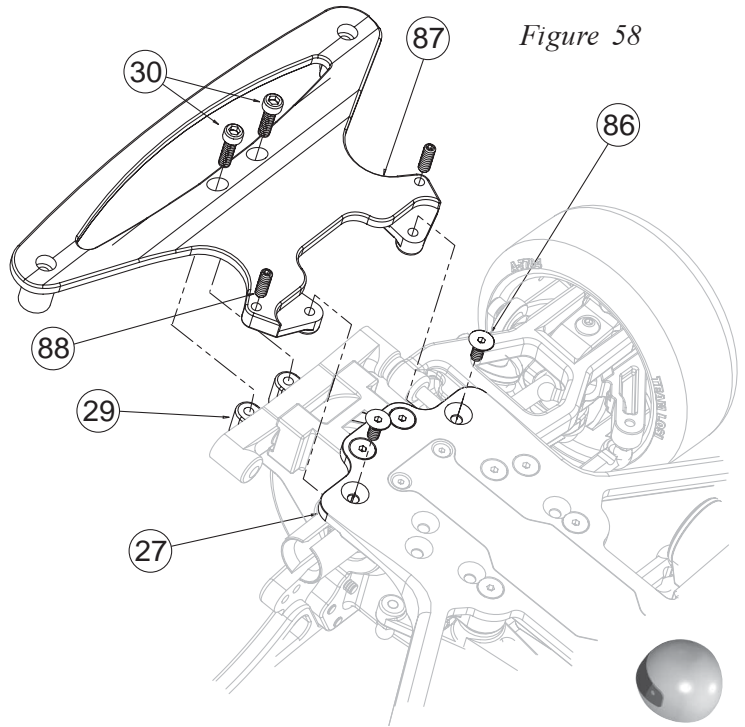

Figure 58
1. Holding the car upside-down, install the Front Bumper (87) by lining up the holes in the "fork" of the Front Bumper with the holes in the Chassis (27). It should rest on the Front Diff Cover (29). Secure the Front Bumper by threading two 4-40 x 1/4" Flat Head Screws (86) through the Chassis into the two holes in the back of the Front Bumper as indicated in Figure 58.
2. Thread two 4-40 x 3/8" Cap Head Screws (30) through the Front Bumper into the Front Diff Cover.
3. Thread the two 4-40 x 5/16" Droop Limiter Set Screws (88) into the Front Bumper, until the Hex of the Screw is positioned half-way into the bottom of the Bumper, as indicated in Figure 58.
❑ 1. Place the Motor Mount (127) against the motor (*not included*) so that the shaft on the motor is centered in the large hole in the Motor Mount and the flat surface of the Motor Mount rests against the motor as shown in Figure 58. Align the holes in the Motor Mount with the holes in the motor as indicated in Figure 60.